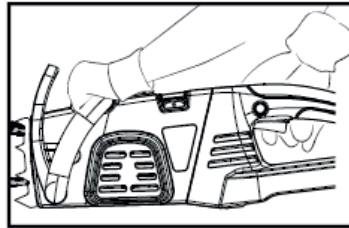

Fig 8B
2. Grip the saw with both hands, left hand holding the front handle (DO NOT HOLD CHAIN BRAKE) and the right hand holding the rear handle. Thumbs and fingers should encircle both handles. (Fig 8B)